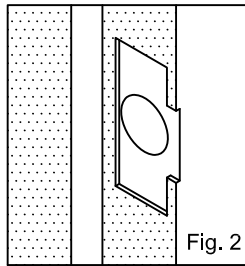

Fig. 2
- \* Using the strike plate as a template,align it with the position marks in the jamb and mark the inner and outer edges of the strike plate on the jamb.(Fig 2).
- \* Cut a 1mm deep rebate so that the strike plate fits flush with door jamb(Fig 2).